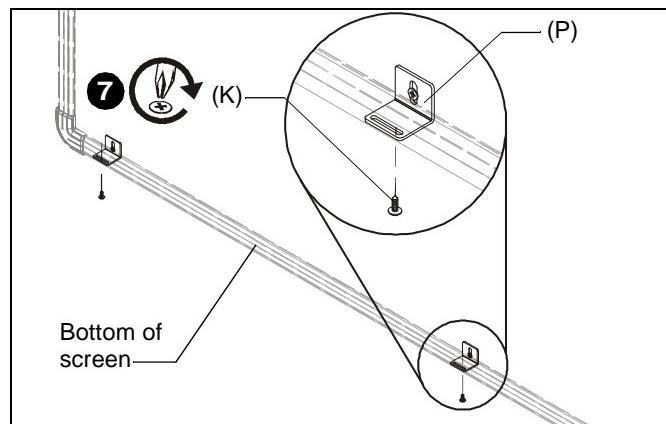

Figure 7
7. Slide screen brackets (P) up on wood screw and fasten to screen frame using one #8 x 1/2" self-drilling screw (K) per screen bracket (P). (See Figure 7)